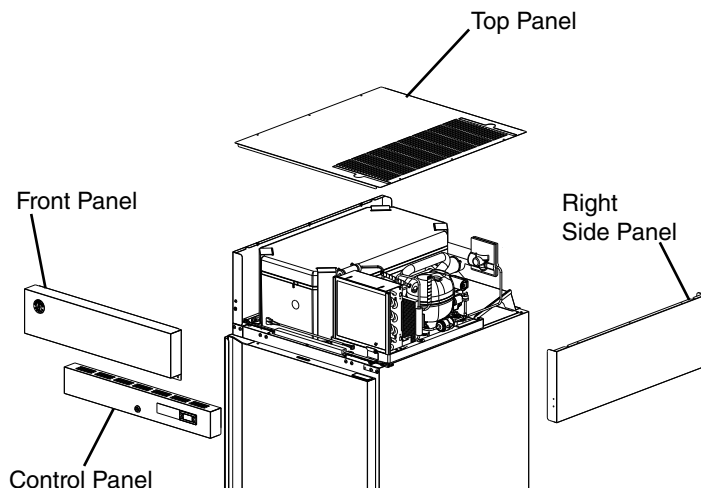

Fig. 1
- 3) Remove the front, control, right side, and top panels from the appliance. See Fig. 1.